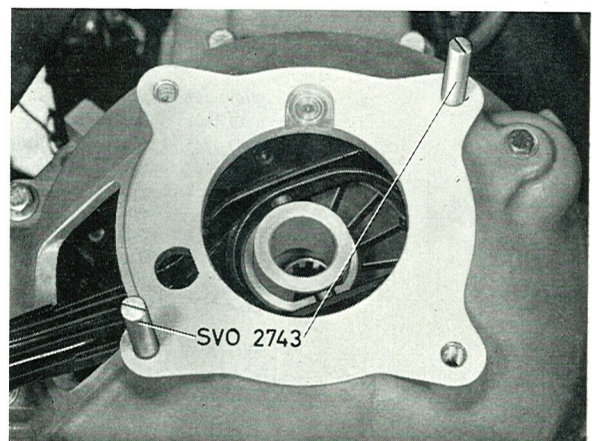

Fig. 4-43. Guide pins for gearbox
6. Slacken the right upper and left lower gearbox bolts with spanner SVO 2487, swivelling joint SVO 2427, extension piece with 3/8" square end and ratchet handle, see Fig. 4-28. Fit two guide pins SVO 2743, see Fig. 4-43. Slacken the other two bolts. Pull out the gearbox backwards and lower it.
Make sure that guide pins SVO 2743 are fitted acc. to Fig. 4-43. Fitting is done in the reverse order to removing. Fill up the gearbox with oil.